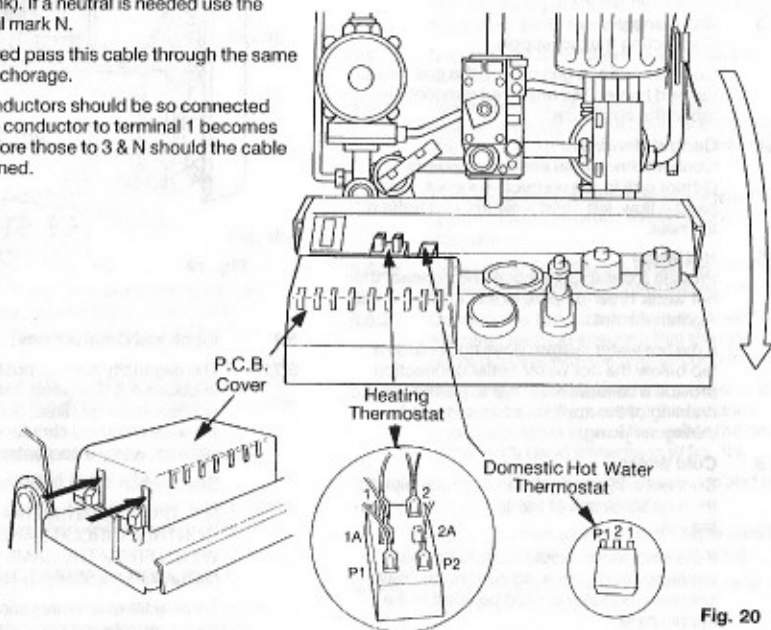

Fig. 20
- Press in the sides of the printed circuit board cover (fig. 20) to release retaining clips, and lift cover off.
**6.7.6** If the boiler temperature is above 60°C turn the dhw thermostat down until the low flame is established. If low flame cannot be established in this way, turn off the electricity supply and transfer the cable on terminal 2 of the dhw thermostat to terminal 1 (Fig. 20 shows location). Switch on electricity.